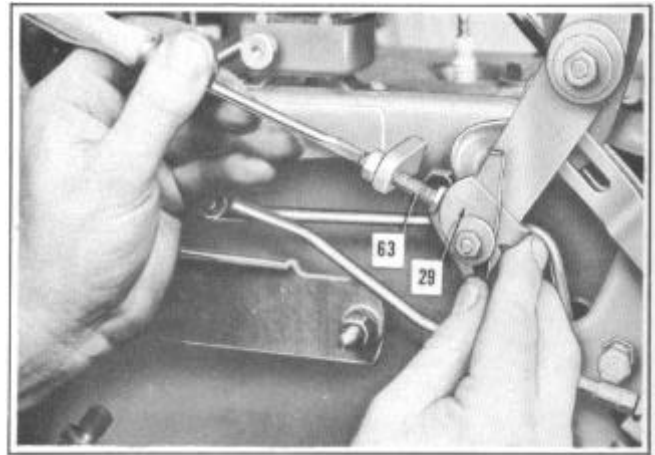

FIGURE 27
Stop engine; depress clutch pedal (IMPORTANT) and restart engine; **DO NOT RACE ENGINE.** Set hand brake, transmission in second gear. Screw cam screw (63), Figure 27, in fully towards cam (29). Push cam (29) against screw (63) and back out screw (63) until engine stalls. Above adjustment should be made with the
B. To check fast start, depress accelerator pedal 1/2 way to floor - car should move forward smoothly without excessive slipping of clutch. If necessary adjust screw (63) "in" or "out" to meet this requirement, Figure 27. Do not screw (63) "in" toward cam more than two (2) turns from No. 9 Adjustment setting.